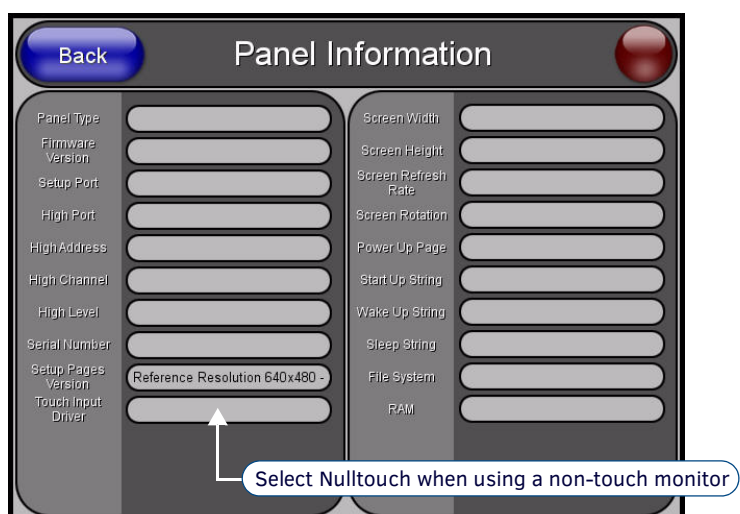

FIG. 32 Panel Information page
1. Press the TOUCH pushbutton on the front panel to open the *Panel Information* page (FIG. 32).